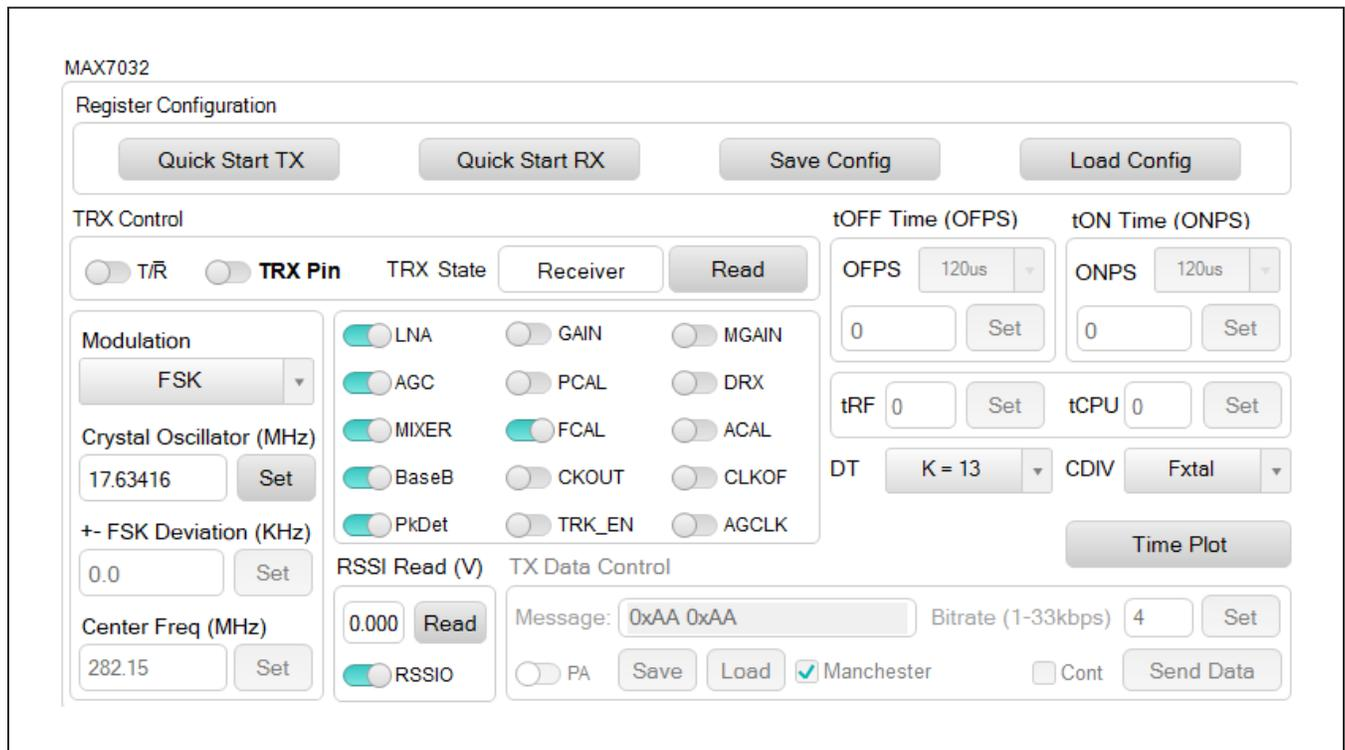

Figure 15. Device Settings for FSK Receiver
- 2) Connect the DATA test point to an oscilloscope to see the output data stream or view through the **Time Plot** sampler (Figure 15). (See Time Plot in the Detailed Description of Software section.)
- 2) Connect the DATA test point to an oscilloscope to see the output data stream or through the Time Plot sampler (Figure 15). (See Time Plot in the Detailed Description of Software section.)